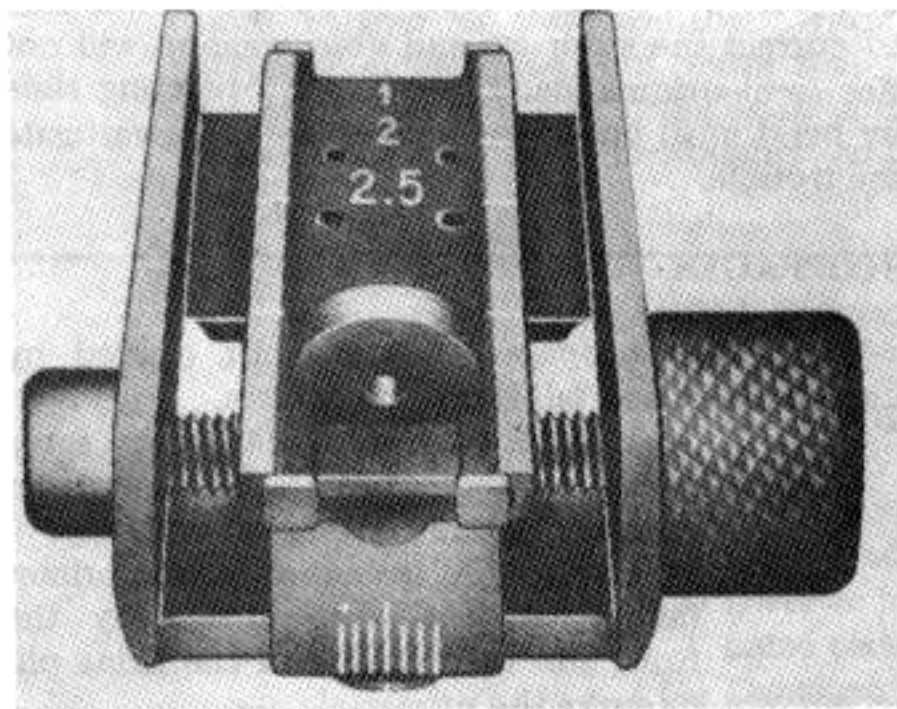

Figure 43a. The rear sight.
*a.* The rear sight of your carbine is adjustable (Fig. 43a), enabling you to engage targets accurately up to the maximum effective range. It has an elevation slide and a windage knob. The rear sight ramp has the numbers 1, 2, 2.5, and 3 corresponding to 100, 200, 250, and 300 yards of range. There is a corresponding indentation on the ramp for each of these ranges. The sight setting for 100 yards is also used for firing at 150 yards. The base of the rear sight has graduations for windage.